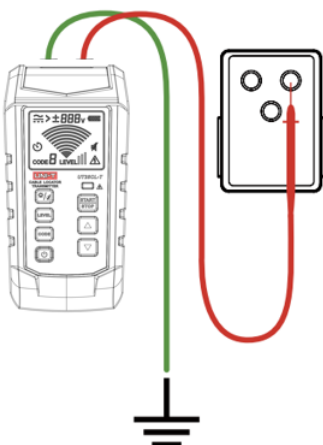

Figure 7.1.1a Correct Connection of Independent Grounding
2. Connect the outlet convertor to the outlet, and connect the red test lead to the energized live wire (at the load side of the system). Signal is generated only between the power supply and the load side connected with the transmitter. As shown in Figure 7.1.1a.